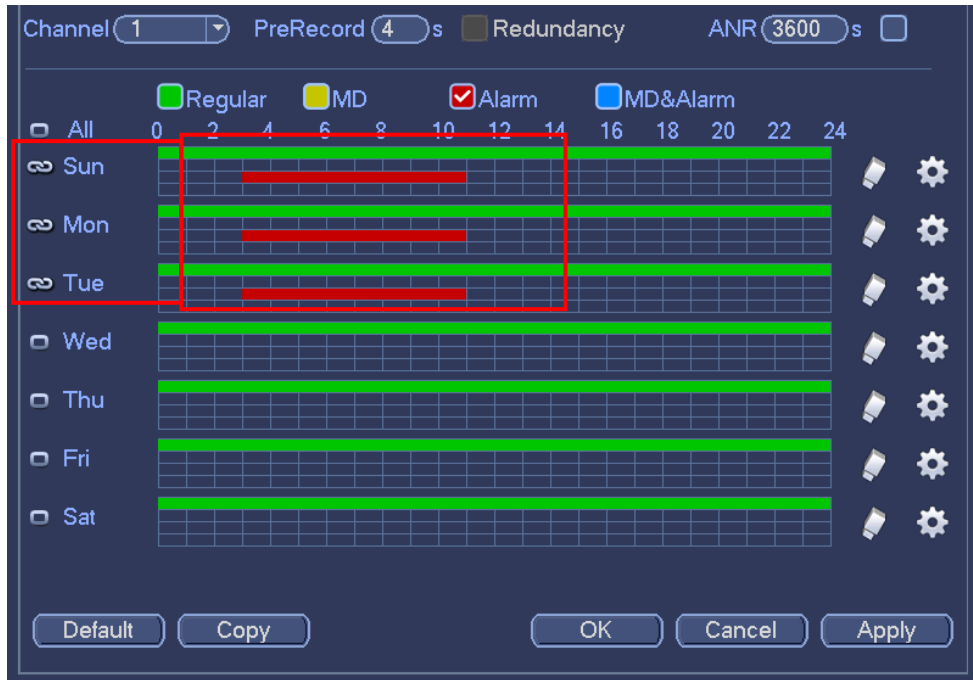

Figure 4-54
- Please draw manually to set record period. There are six periods in one day. See Figure 4-54.